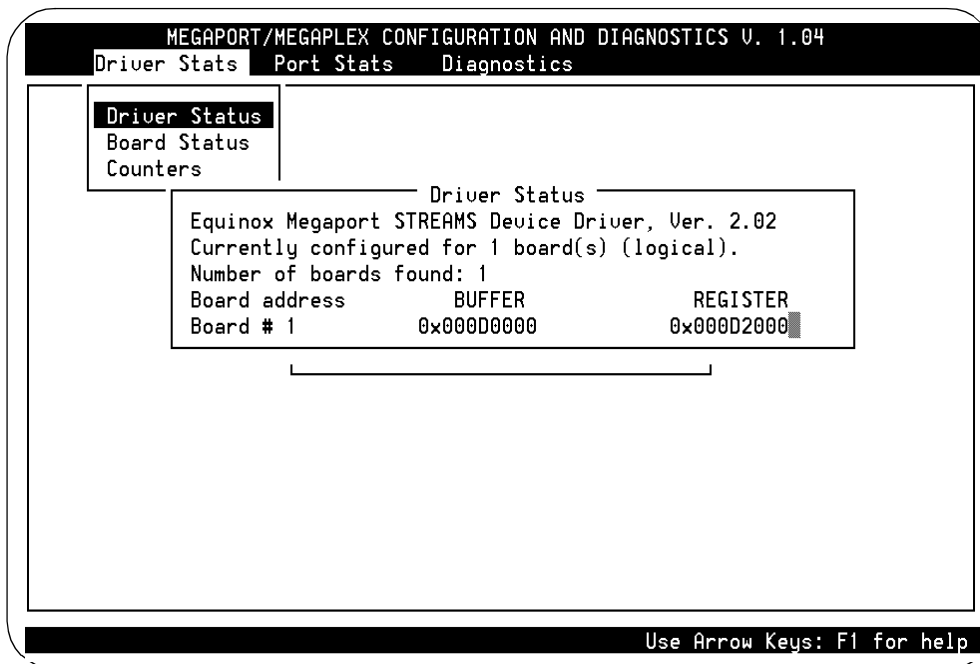

Figure 20-17. Multi-Port Serial Card Diagnostics Screen
A menu bar with three options appears: Driver Stats, Port Stats, and Diagnostics. The first menu, Driver Stats, is open as displayed in Figure 20-17.
1. Display the Multi-Port Serial Card Diagnostics screen (Figure 20-17) using the procedure in the previous section, "Accessing."
4. Display the Multi-Port Serial Card Diagnostics screen (Figure 20-17) using the procedure in the previous section, "Accessing."